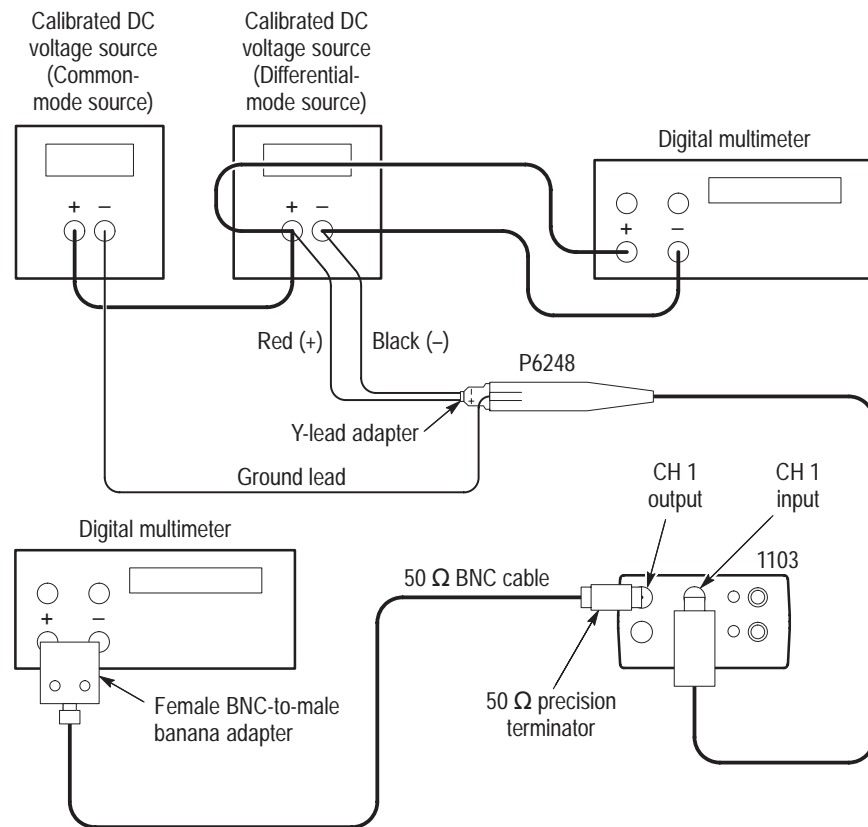

Figure 5: Setup for differential-mode tests
1. Connect the probe as shown in Figure 5. Use the adapters and patch cords as necessary to make the connections. Use square pins to connect the ground lead and y-lead to the power supplies.